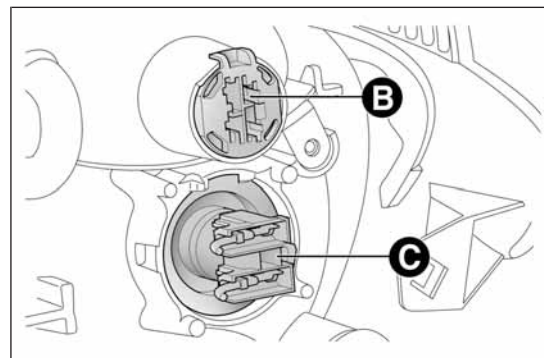

fig. 135
- ☐ remove bulb holder B fig. 135, remove the bulb and replace it;
- ☐ remove bulb holder C fig. 135, remove the bulb and replace it;